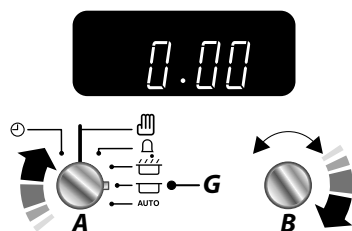

Fig. 2.29
3. Continue to turn the **Adjusting (B)** knob to the amount of time required e.g. 1 minute. The display will show the current time plus the required length of time you have set (**Fig. 2.29**).
4. Turn the **Timer (A)** knob to the **Auto (H)** setting (**Fig. 2.29**). The display will show the current time, the Cooking symbol and the word '**AUTO**' (**Fig. 2.29**).